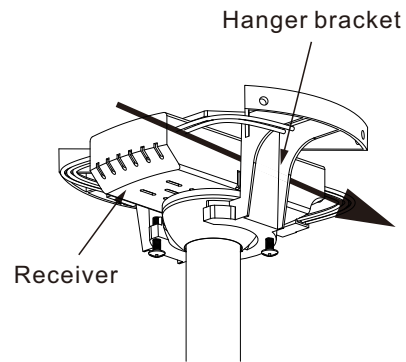

Figure 18
Step 1. (Fig. 18) Insert the receiver into the hanger bracket with the flat side of the receiver facing the ceiling.